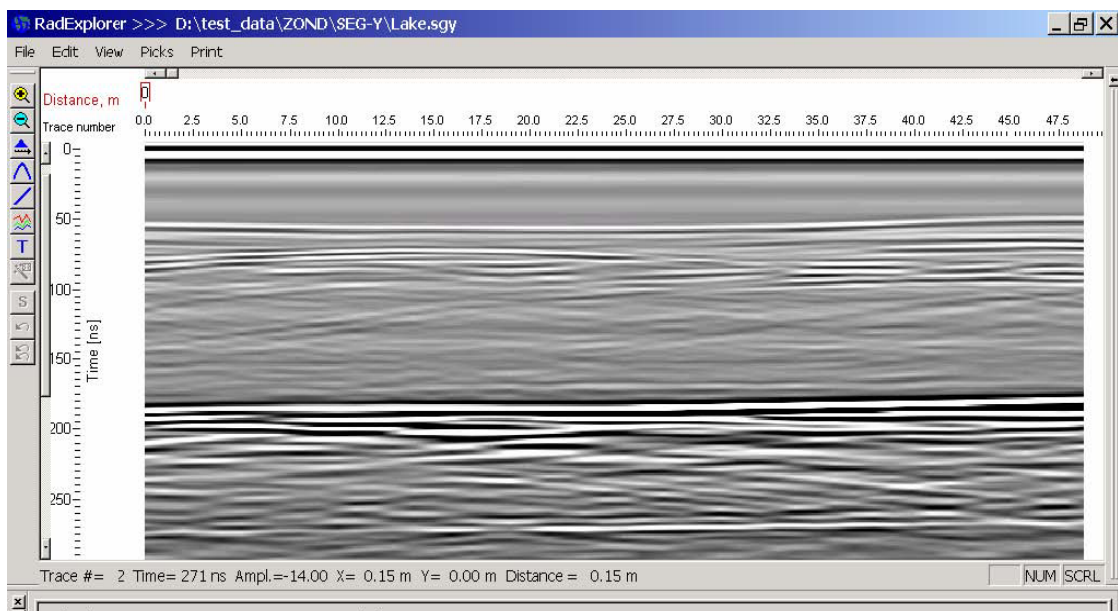

Fig. 5.4.5 – in gray scale
- “Gray” – in gray scale (by default) (see Fig. 5.4.5);